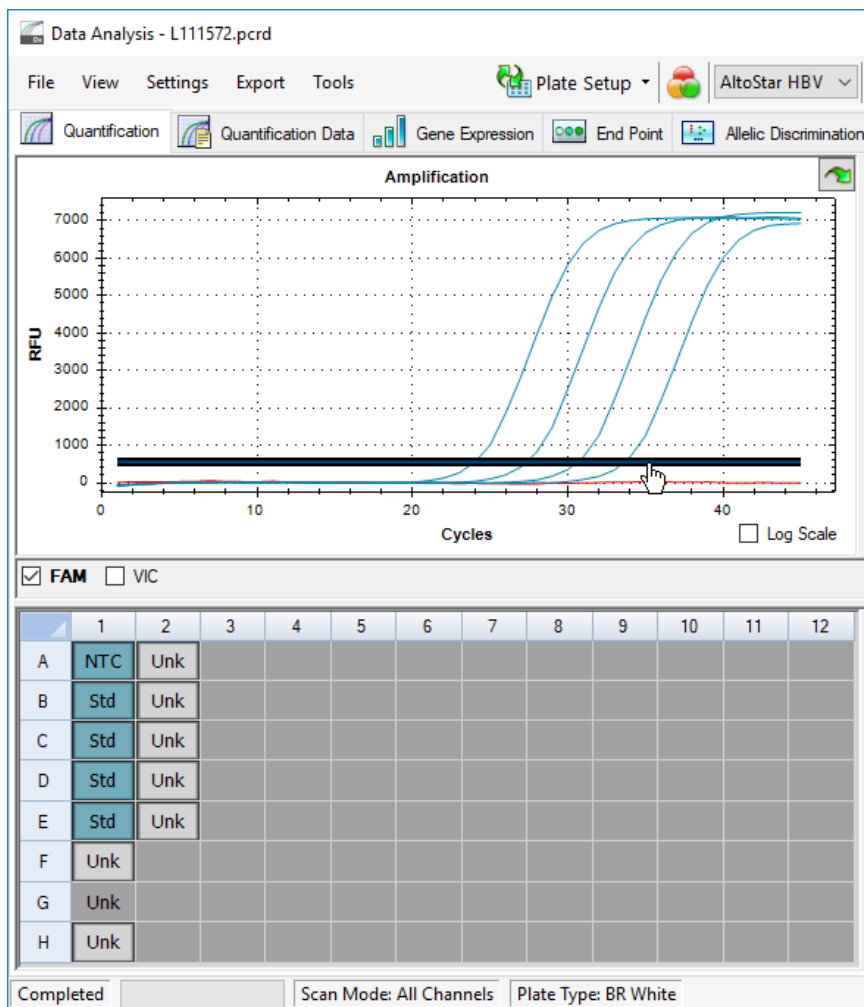

Figure 10: Data Analysis window: setting the FAM™ threshold
5. At the left side of the Data Analysis window untick the **VIC** checkbox and tick the **FAM** checkbox for the detection channel of the HBV target (see figure 10).
6. Select only the wells containing the NTC and the Qs in the plate view of the Data Analysis window (see figure 10).
7. Drag the threshold well above the signal of the NTC into the exponential area of the Qs signals (see figure 10).